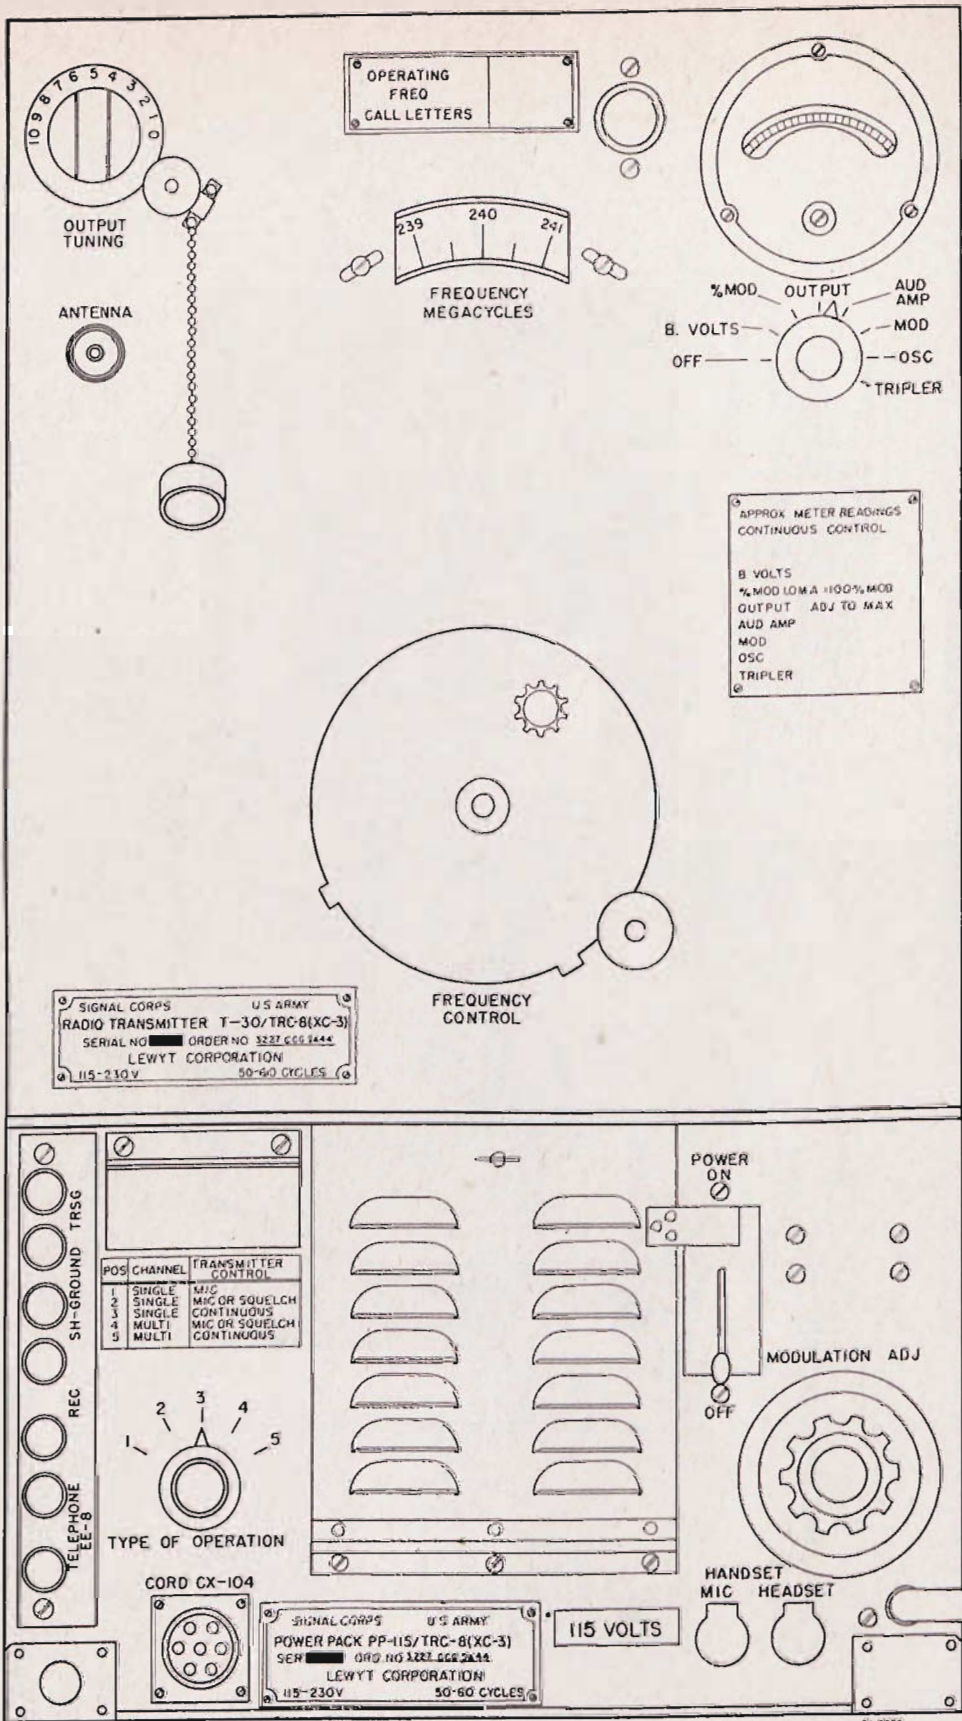

Figure 56. Radio Transmitter T-30/TRC-8 (XC-3), front panel.
53. TRANSMITTER CONTROLS (fig. 56).